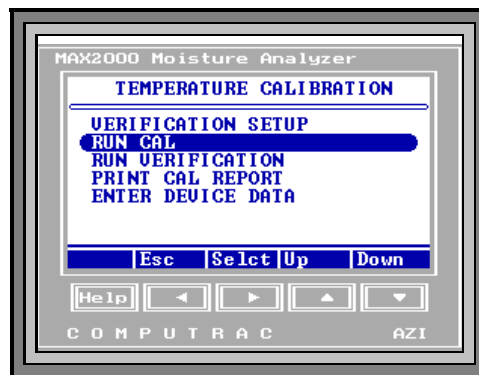
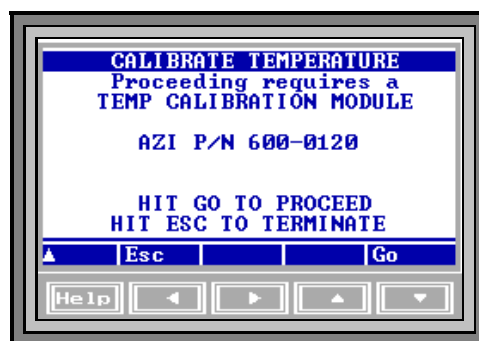

Figure 54 RUN CAL
Figure 55 TEMP CAL MODULE
- Toggle up to RUN CAL (see **Figure 54**) and press the “Selct” key. The next screen will ask to ensure that you have the temperature calibration device, (see **Figure 55**). If the device is hooked up, press “Go.”